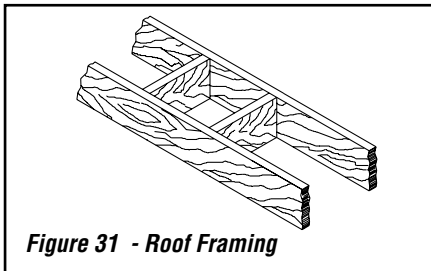

Figure 31 - Roof Framing
1. Cut and frame the holes in the ceiling, floor and roof where the chimney will pass (see **Figure 31**). Use a plumb-bob to line up the center of the holes. The sizes are indicated in **Table 2** for the floor and ceiling holes and **Table 3 (Page 22)** for the roof holes.